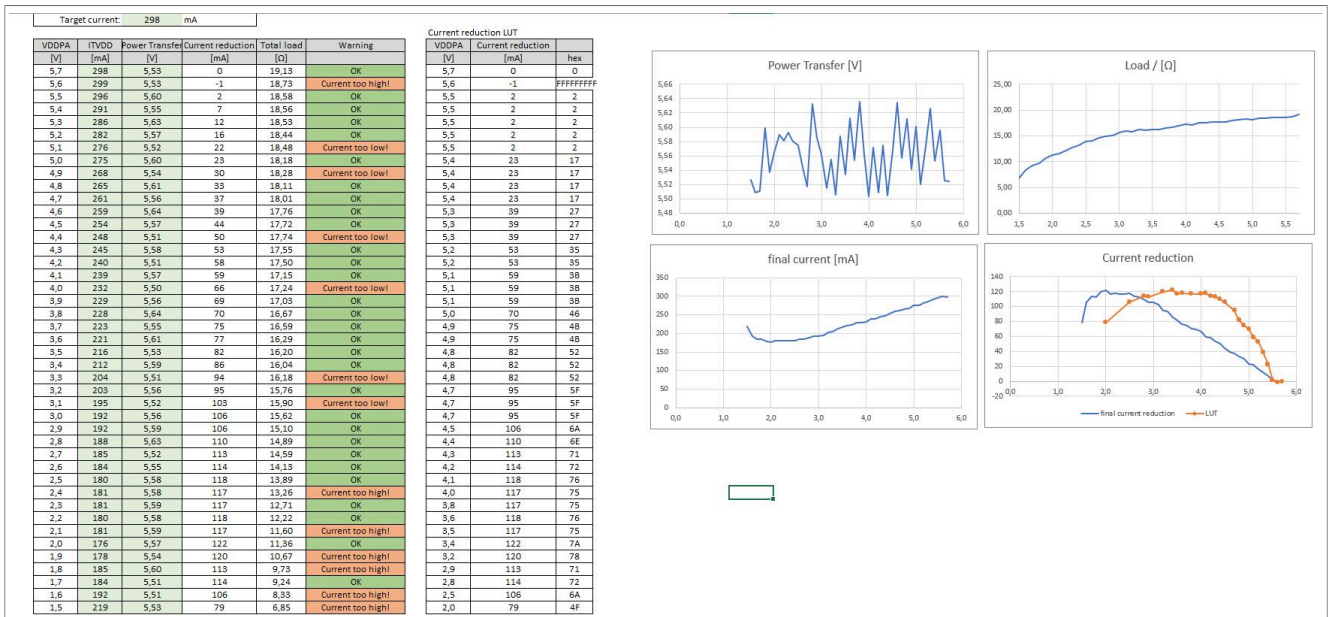

Figure 12. Uncorrected DPC calibration measurement result
b. Open result: An example is shown in Figure 12
| Fig. 4. | Start of measure_vov.exe | 6 | Fig. 12. | Uncorrected DPC calibration measurement result | 12 |